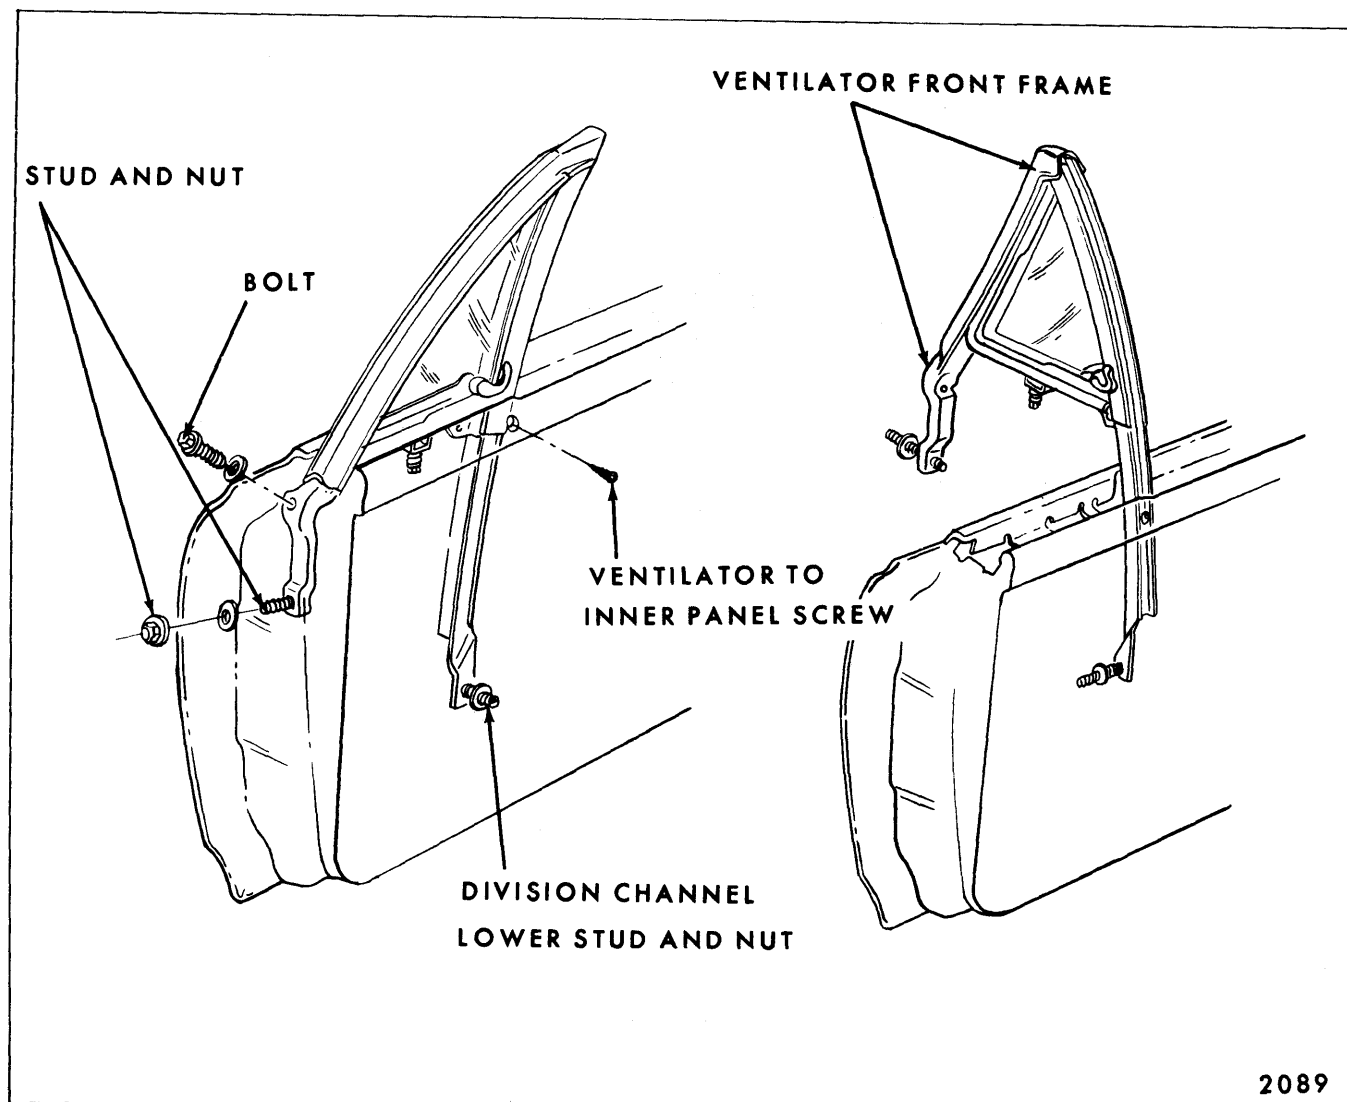

Fig. 6-64—Front Door Ventilator Removal - "Z" Styles
2. Remove ventilator division channel lower adjusting stud nut and ventilator to door inner panel attaching screw (See Fig. 6-64). Turn stud as far as possible out of contact with door inner panel.
3. On door hinge pillar, remove ventilator frame attaching bolt and ventilator frame lower adjusting stud nut (See Fig. 6-64).
5. Push ventilator lower adjusting stud free of inner panel and rotate top edge of ventilator rearward until front frame clears hinge pillar (See Fig. 6-64).
6. Turn ventilator 90 degrees, as shown in Figure 6-64, and remove assembly from body.